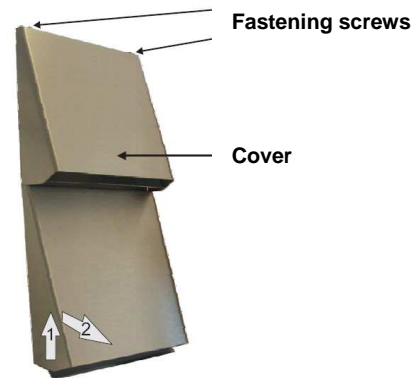
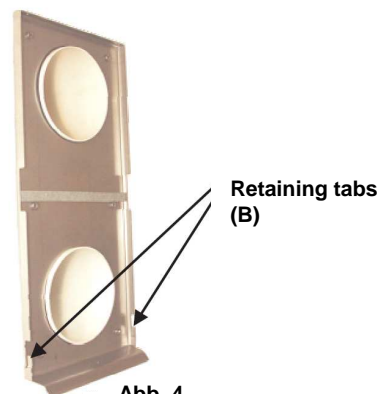

Abb. 2
Abb. 4
2. Unscrew the fastening screws. Push the cover approximately 1cm upwards and then take it off. (Abb. 2).
4. Insert the cover with the hooks into the retaining tabs of the base plate (Abb. 4 (B)). Then fixate it with the fastening screws. (Abb. 2).